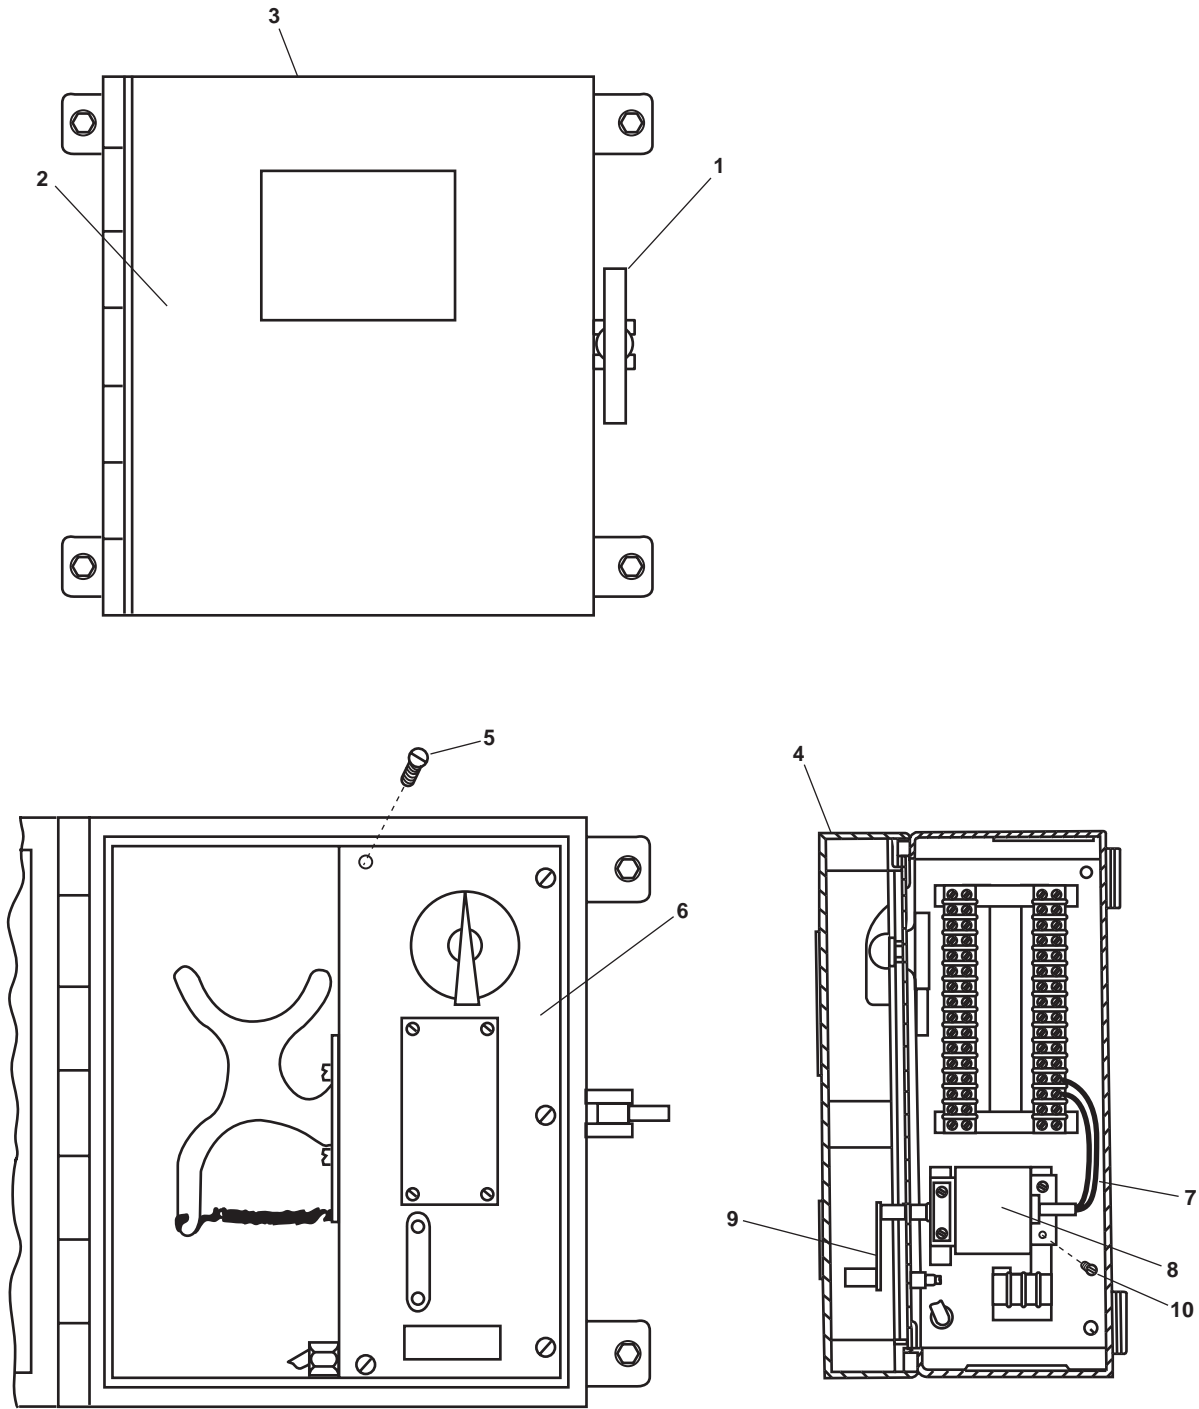

Figure 1. Sound Powered Telephone MWT-246J
1. Loosen the T-handle (figure 1, item 1) and OPEN the cover (figure 1, item 2) of the handset box (figure 1, item 3).
2. Remove the gasket (figure 1, item 4) from the telephone handset box (figure 1, item 3).
1. Install the gasket (figure 1, item 4) in the telephone handset box (figure 1, item 3) and secure it with rubber cement.
2. CLOSE the cover (figure 1, item 2) of the handset box (figure 1, item 3) and tighten the T-handle (figure 1, item 1).
2. Remove the five screws (figure 1, item 5) from the mounting plate (figure 1, item 6).
3. Remove the mounting plate (figure 1, item 6) from the handset box (figure 1, item 3).
4. Label and remove the wiring (figure 1, item 7) from the hand ringing generator (figure 1, item 8).
5. Remove the manual control handle (figure 1, item 9) from the hand ringing generator (figure 1, item 8) by turning it counterclockwise.
6. Remove the four screws (figure 1, item 10) from the hand ringing generator (figure 1, item 8).
7. Remove the hand ringing generator (figure 1, item 8) from the handset box (figure 1, item 3).
1. Install the hand ringing generator (figure 1, item 8) in the handset box (figure 1, item 3).
2. Install the four screws (figure 1, item 10) in the hand ringing generator (figure 1, item 8).
3. Install the manual control handle (figure 1, item 9) on the hand ringing generator (figure 1, item 8).
4. Connect the wiring (figure 1, item 7) to the hand ringing generator (figure 1, item 8) using the labels from step 4 of Removal as a guide. Remove the labels.
5. Install the mounting plate (figure 1, item 6) on the handset box (figure 1, item 3).
6. Install the five screws (figure 1, item 5) in the mounting plate (figure 1, item 6).
7. CLOSE the cover (figure 1, item 2) of the handset box (figure 1, item 3) and tighten the T-handle (figure 1, item 1).
2. Remove the manual control handle (figure 1, item 9) from the hand ringing generator (figure 1, item 8) by turning it counterclockwise.
1. Install the manual control handle (figure 1, item 9) on the hand ringing generator (figure 1, item 8).